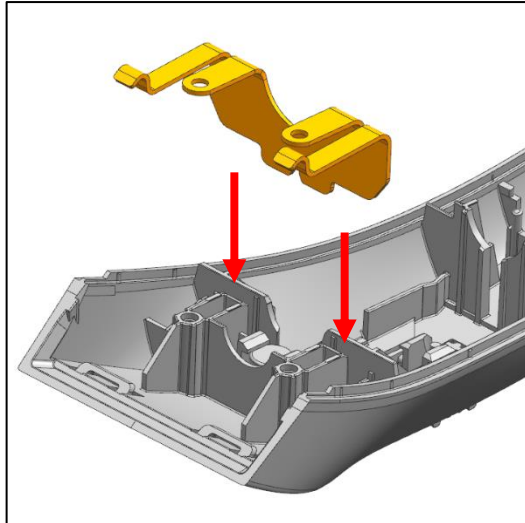

Fig. 29
- a) Place the holding plate in the housing behind the front screw bosses, in the slot intended for this purpose (Fig. 29).